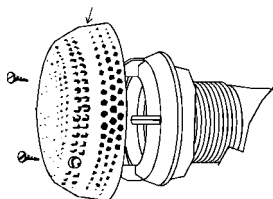

Figure 16
- The Suction Return Strainer Cover may be removed by using a Phillips screwdriver to remove the screws. **Take care to make sure the suction return strainer is never blocked while whirlpool is operating. (See Figure 16)**